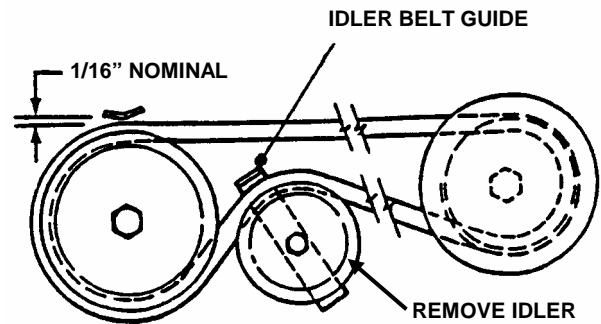

FIGURE 4.15
8. Remove idler. See Figure 4.15 and 4.16
9. Route belt onto spindle pulley. Make sure belt is inside spindle belt guide and idler belt guide. Route belt as shown in Figure 4.15 or 4.16.
11. Adjust belt guide. See Figure 4.15 or 4.16 for proper belt-to-belt guide clearances.